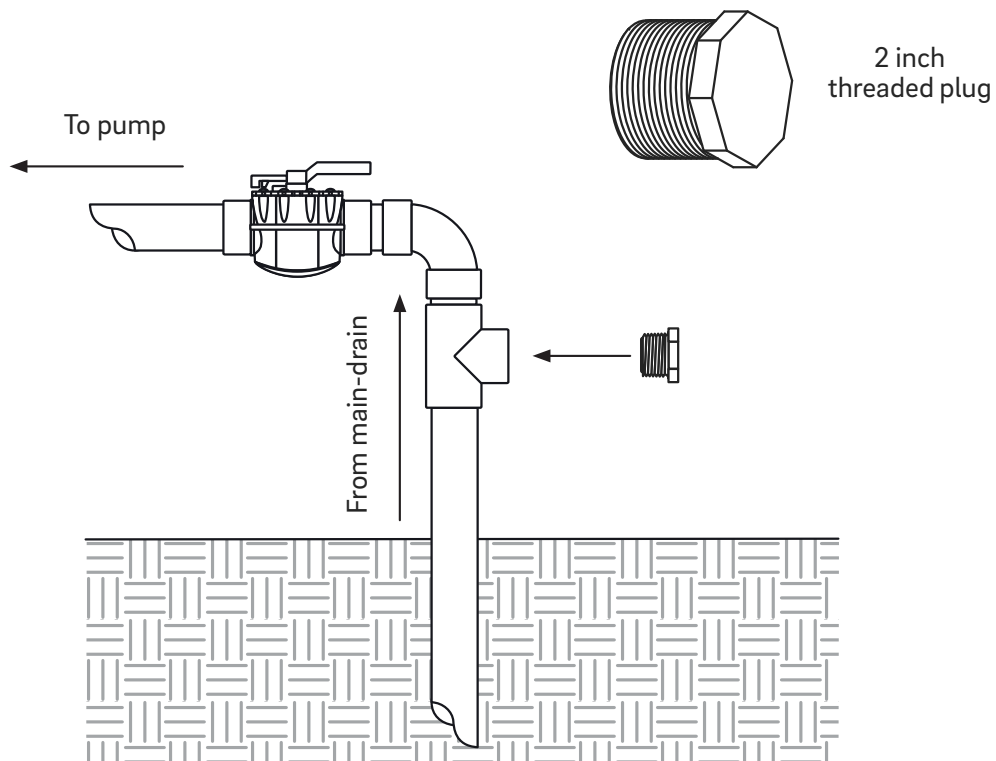
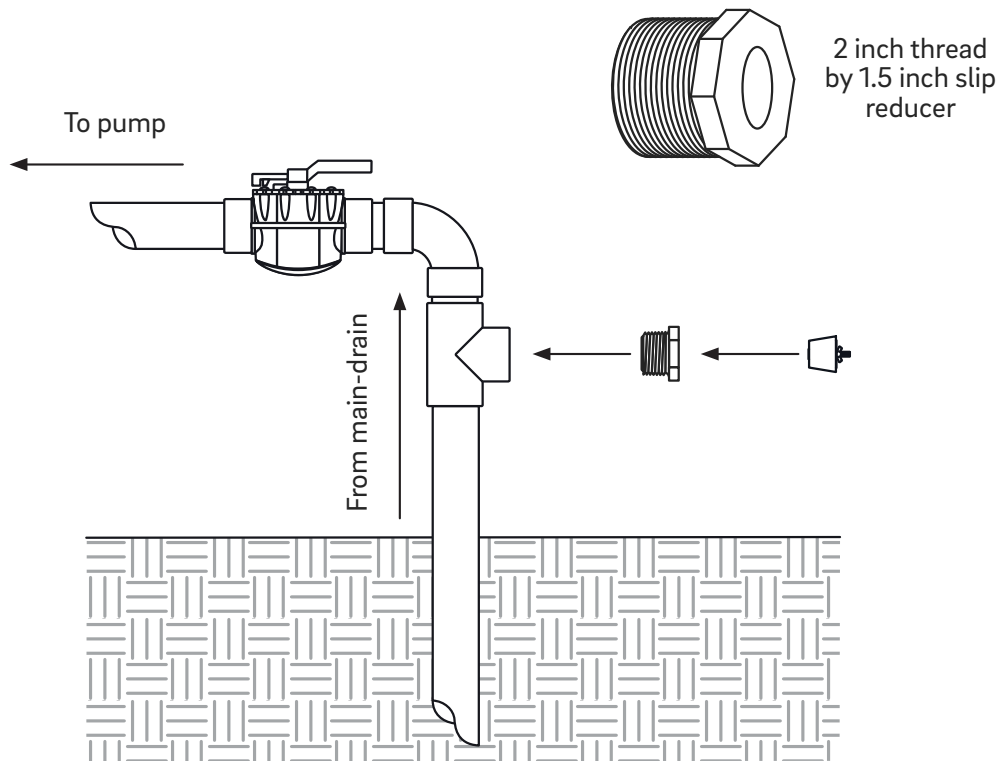

Figure 22
Figure 23
2. Between the 2-Way shut-off valve and the drain, install a Tee fitting with a 2 inch threaded branch. This will allow a 2 inch threaded plug to be removed later during the winterization process (Figure 22).
4. Remove the 2 inch threaded plug from the Tee (Figure 22) and replace it with a 2 inch thread by 1.5 inch slip reducer (Figure 23).